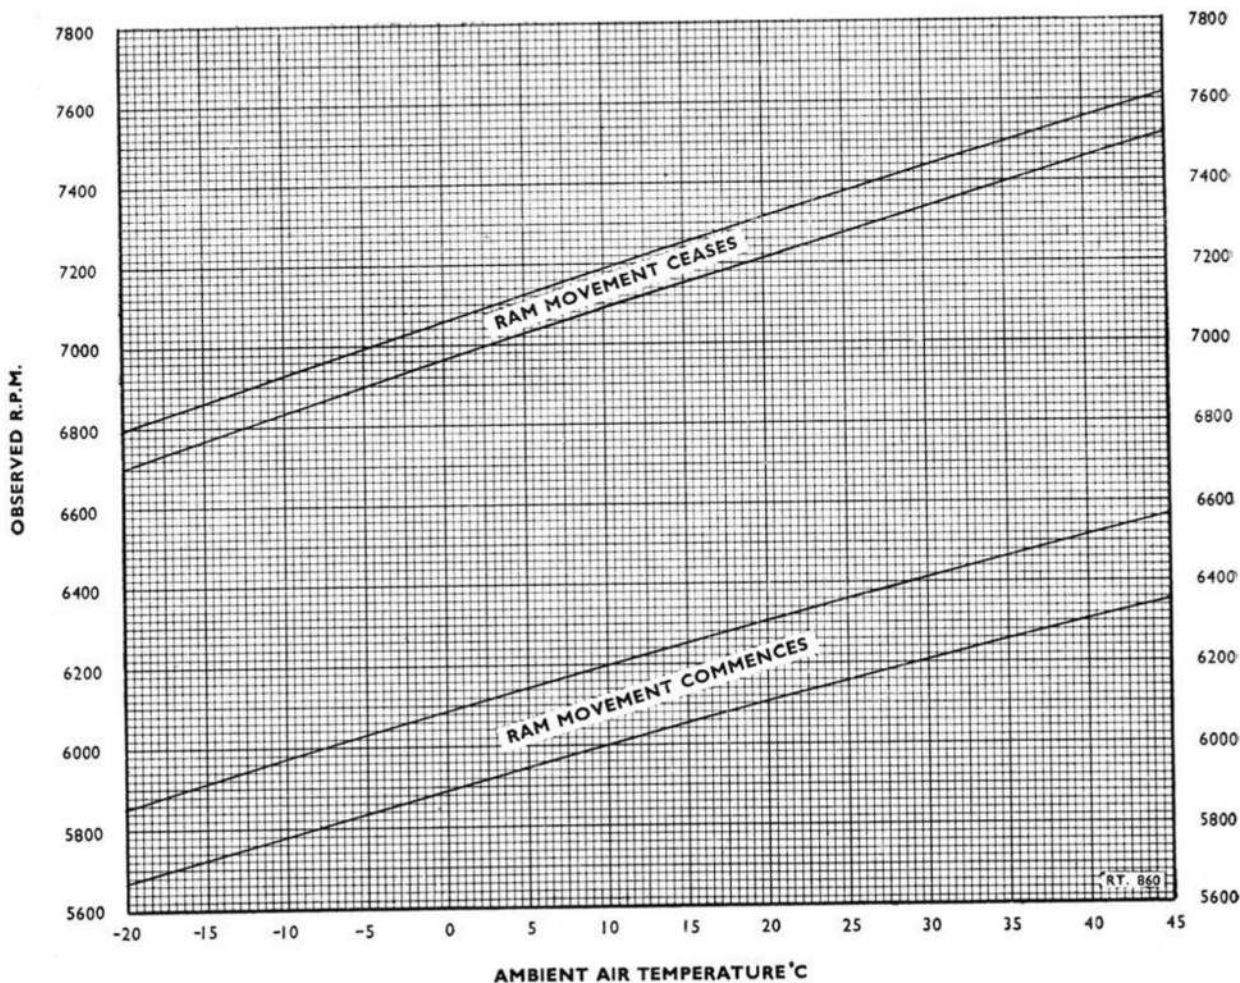

Fig. 1. R.p.m./temperature correction—Intake guide-vane ram operation
21. With the anti-icing switch in the OFF position, slowly open the throttle and check that the intake guide-vane ram moves from the 40 deg. position and reaches the zero incidence position within the range of engine speeds shown in fig. 1.